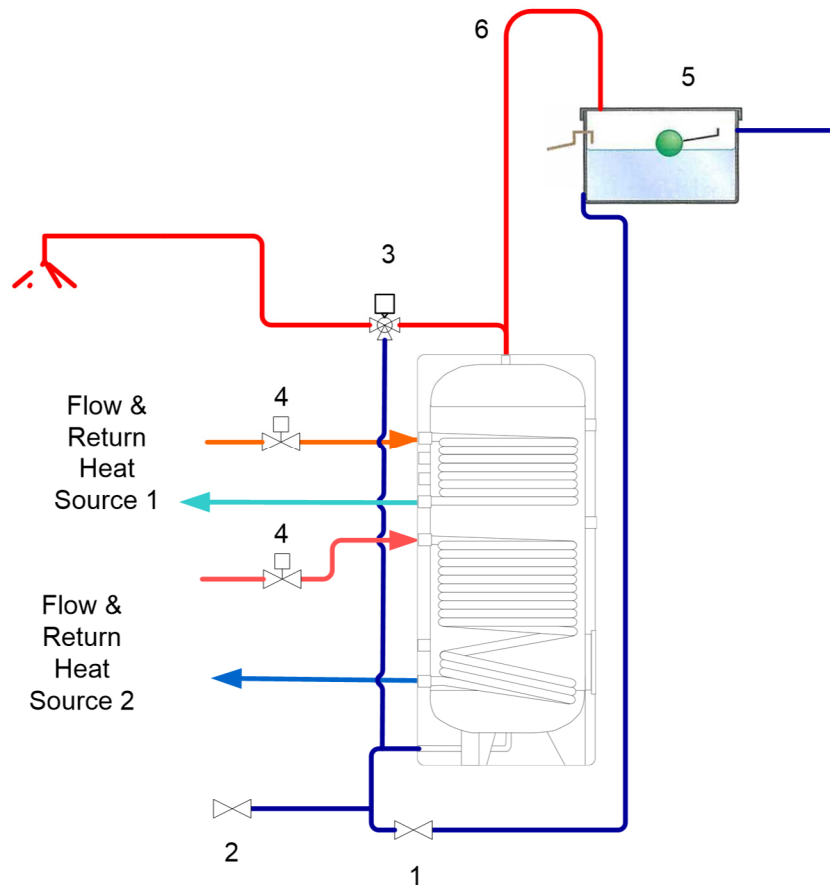

Figure 3 - Open Vented System
When used in unvented installations, the appropriate unvented kit supplied by RVR must be used. This contains items 1,3,4,5 and 6 as shown in figure 3. Other items such as mixing valves and zone valves are also available from RVR.
Please see figure 3 for a general layout for an open vented water heater installation. The following safety devices must be fitted to the water heater: